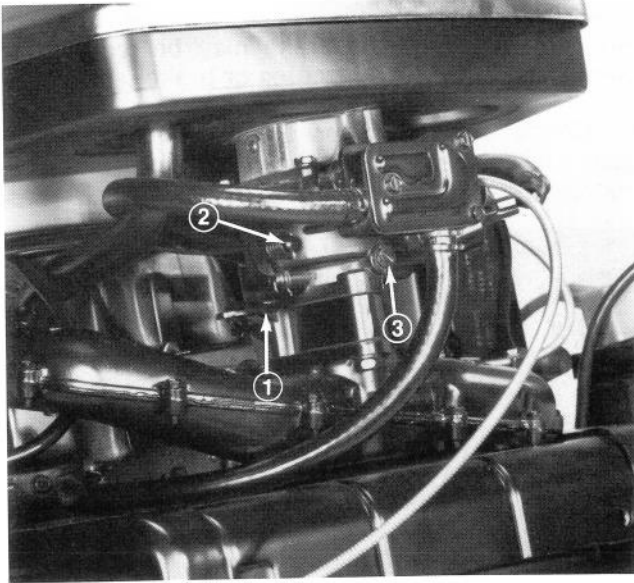

Figure 21
2. Throttle lever on carburetor should touch idle speed adjusting screw (Fig. 21).
1. Idle Mixture Valve (Fig. 21) — Close valve by gently rotating it clockwise.
4. Hold carburetor throttle lever (Fig. 21) against idle stop, and adjust idle speed screw to obtain: 1200 to 1400 RPM.